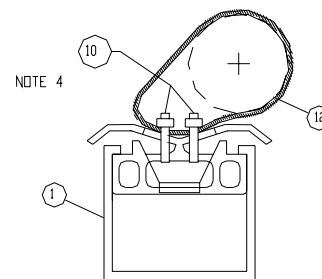
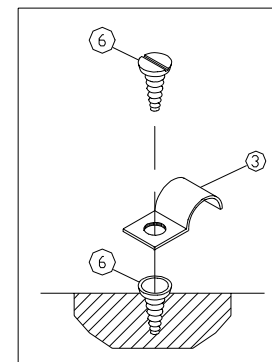

FIGURE 3
FIGURE 4
- SECURE CONDUIT TO UNISTRUT WITHIN 48 INCHES NOMINAL OF WHERE CONDUIT PASSES THRU RAISED FLOORING. IF OBSTRUCTIONS PROHIBIT 48 INCH INSTALLATION, MFS WILL DETERMINE CLOSEST POSSIBLE SECURING POINT. SEE FIG.2 OR FIG.3. IF REQUIRED, USE ANCHOR KIT AS SHOWN IN FIG.4.
FRONT PANEL FIG. 3